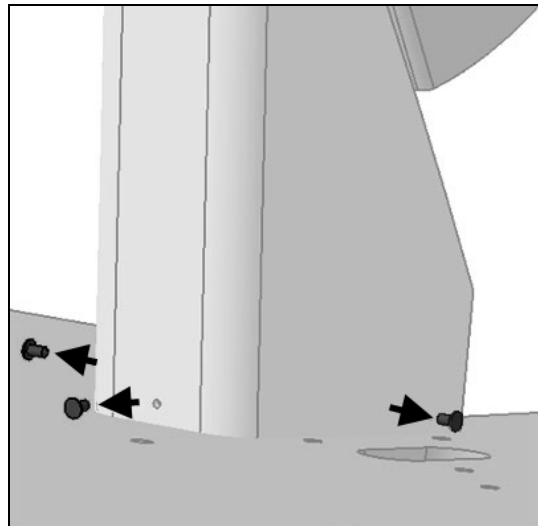

FIGURE 2
- 2) Using a flat blade screwdriver, remove the three (3) trim panel fasteners (a.k.a. Christmas tree fasteners) shown at the base of the plastic cover on figure 2.
- 3) Remove the plastic cover (figure 2).